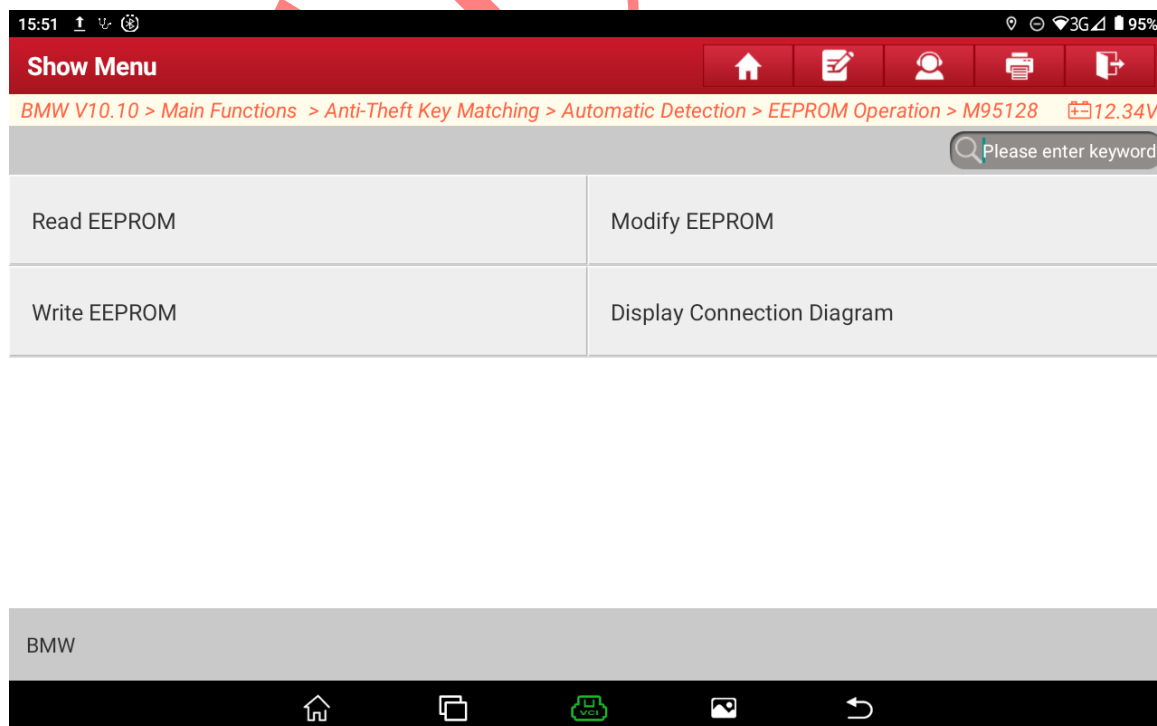

Figure 20
20. Select 【Write EEPROM】 and write the modified EEPROM file into the EEPROM chip, as shown in Figure 20.